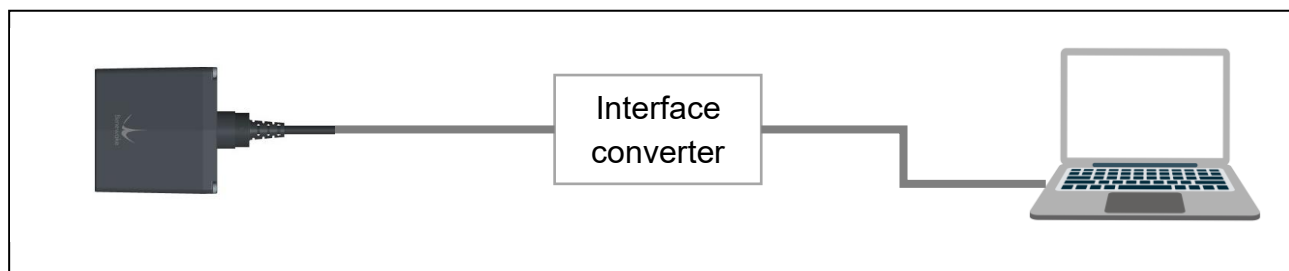

Figure 20 TF350 connecting to PC
- Connect TF350 to the PC or laptop with a **paired USB converter** cable as shown in Figure 20 TF350 connecting to PC. The UART version TF350 needs a UART-USB converter, and the CAN version TF350 needs a CAN-USB converter.